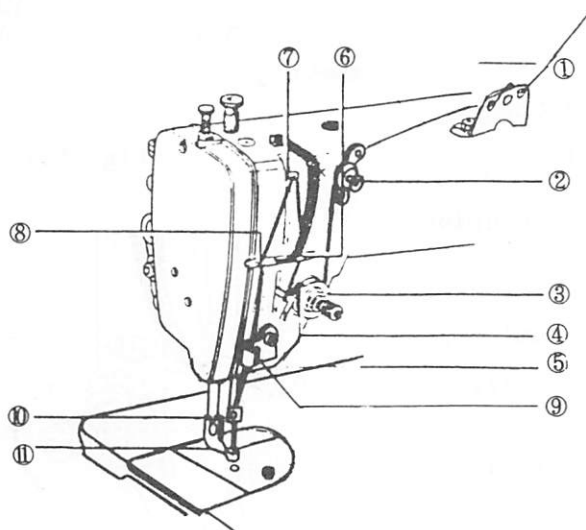

Fig. 9.3
9.3 Threading the needle thread (Fig. 9.3, 9.4)
With the takeup lever set at the uppermost position, pass the needle thread in the order numbered in Fig. 9.3.